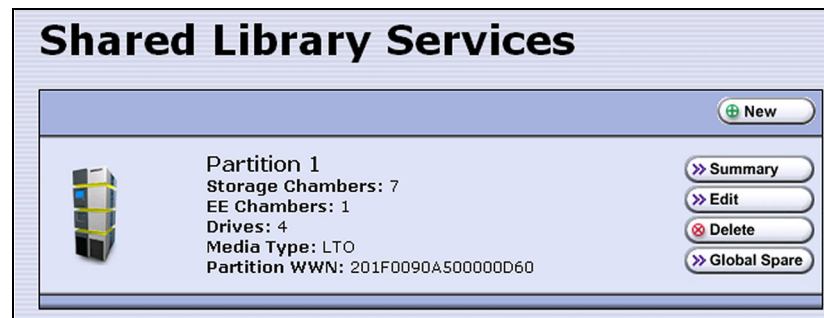

Figure 120 Click **New** on the Shared Library Services screen to begin creating the storage partition.
3. Select **Automatically create a partition** from the initial Shared Library Services screen (see Figure 120 on page 198) and click **New**.